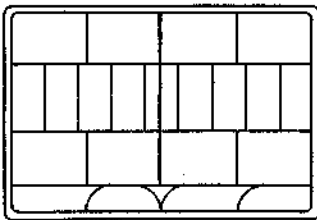
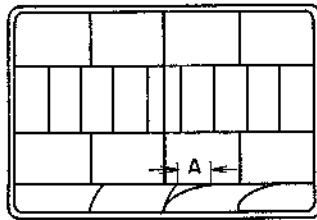
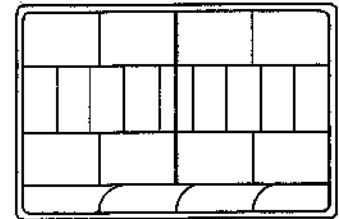

Fig. 4-6
Fig. 4-7
Fig. 4-8
If vertical lines at switching points are as shown in Fig. 4-6 and 4-7 when playing back a reference tape, the 180° angle adjustment of the video head is incorrect and readjustment is necessary. Adjust as follows:
- 3) If the video head angle is modified, playback the reference tape and ascertain that only one vertical line appears at a switching point as shown in Fig. 4-8. If the line is still as shown in Fig. 4-6 or Fig. 4-7, readjust the angle. If portion A in Fig. 4-7 is 1.5 cm on a 1.9 inch monitor TV, no readjustment is required.
- 4) When the vertical line at a switching point is composed of a single line as in Fig. 4-8 or portion A in Fig. 4-7 is within 1.5 cm, the 180° angle adjustment is displaced incorrectly by 1H if the upper part of the picture sways or the BLK line is 1H too much or too little at the beginning or end of the V BLK on the monitor TV. If this is the case, readjust until the phenomenon is eliminated. After adjustment, tighten the screws to 1.5 kg using a torque screwdriver.
NOTE: On the AKAI cassette VTR reference tape, one frame each is recorded for the right half and the left half of the picture. Therefore, if the 180° angle adjustment is incorrect (Fig. 4-6 and 4-7), there are two vertical lines in the center of the picture but one line each on the right and left.